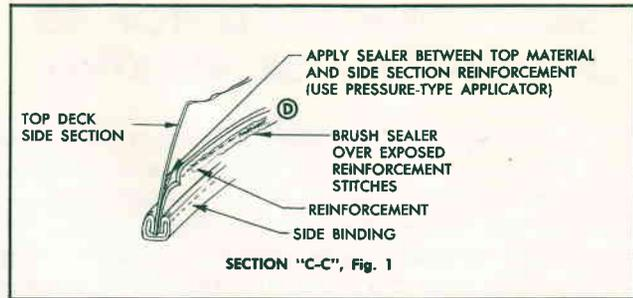

Fig. 6 Sealing Side Section Reinforcement Seam
6. With top in same position as in step 5, apply two beads of sealer to side section reinforcement seam. See "D" in section "C-C", figure 6. At this time, seal only forward horizontal portion of seam extending from front roof rail to folding top No. 2 roof bow. To seal vertical portion of seam rearward of top No. 2 roof bow, see step No. 11.
11. Brush two ribbons of sealer onto side section reinforcement seam in rear quarter area, from folding top No. 2 roof bow down to end of seam. See "D" in section "C-C", figure 6.